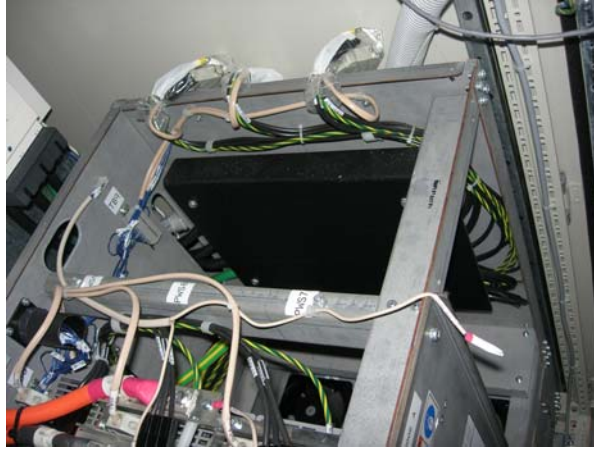

Figure 45 Positioning of the Wires
14. To reinstall the power supply, position the power supply interface cables so they do not interfere with the insertion of the power supply into the power supply module. (Refer to Figure 45.)